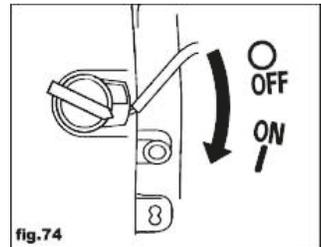

fig.74
- Plug in the unit and turn "on" power (fig.74)